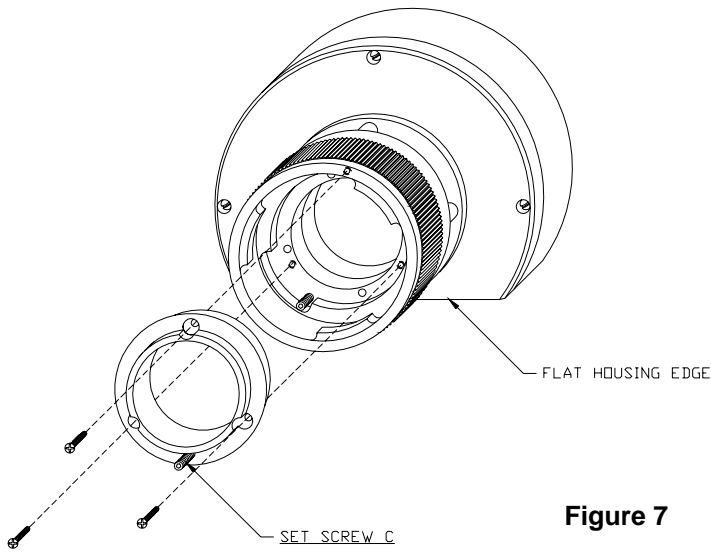

Figure 7
Attach inner ring , using (3) 4-40 screws. Align the set screw C of the inner ring and the center of flat housing edge (see Figure 7, 8).